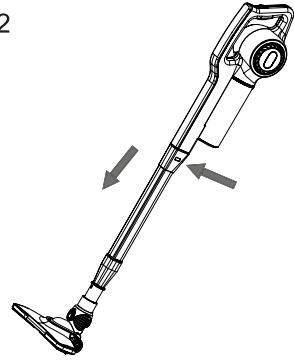

Fig.3
- ◆ Insert connector pipe in the vacuum hole. (Fig. 3)